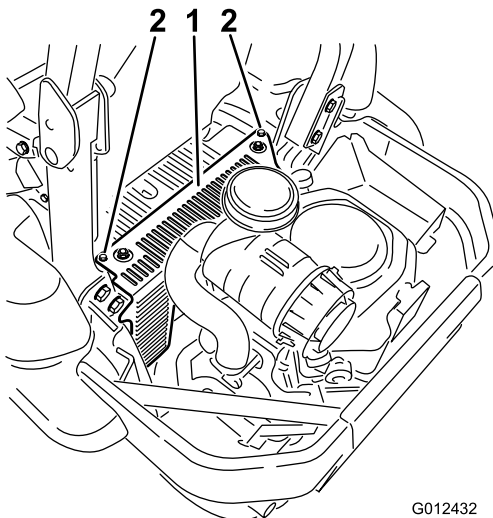

Figure 50
3. Remove the hydraulic-unit shroud and the 2 bolts attached to it (Figure 50). This gives you access to the front spark plug.
5. Install the left-hand hydraulic-unit shroud (Figure 50).